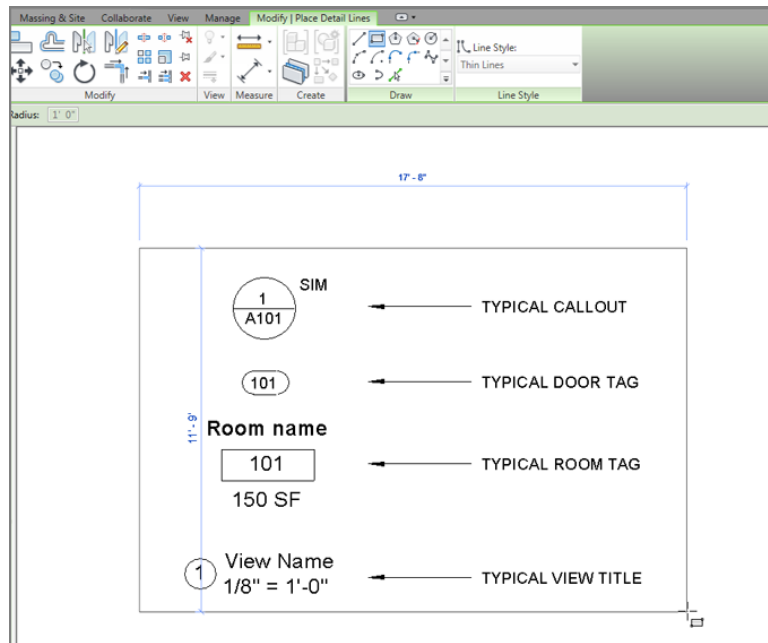

FIGURE 11.52: Adding the linework around the symbols and text
2. In the Properties dialog, be sure Thin Lines is selected, as shown in Figure 11.52.
3. On the Draw panel, click Rectangle (see Figure 11.52).
4. Draw a rectangle around the symbols and the text (see Figure 11.52).